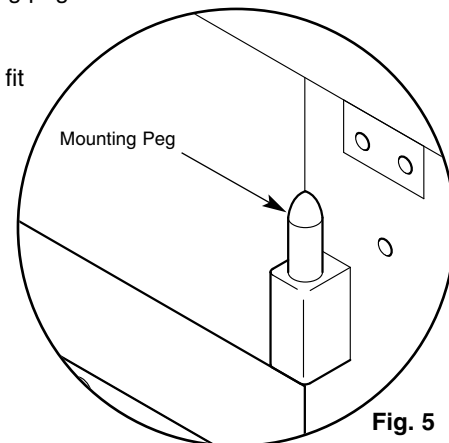

Fig. 5
4. Align the surround with the opening and lower on to the four mounting pegs. Ensure the pegs are located correctly (Fig. 5).